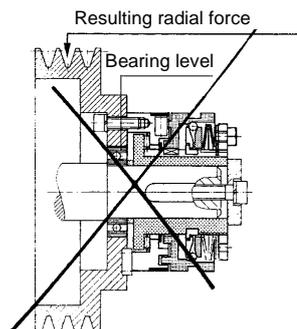

Fig. 5
- ❑ The resulting radial force on the drive element should be at the level of the bearing, in order to prevent the drive element and therefore the pressure flange (2) from tilting. Fig. 5 shows an unpermitted design.